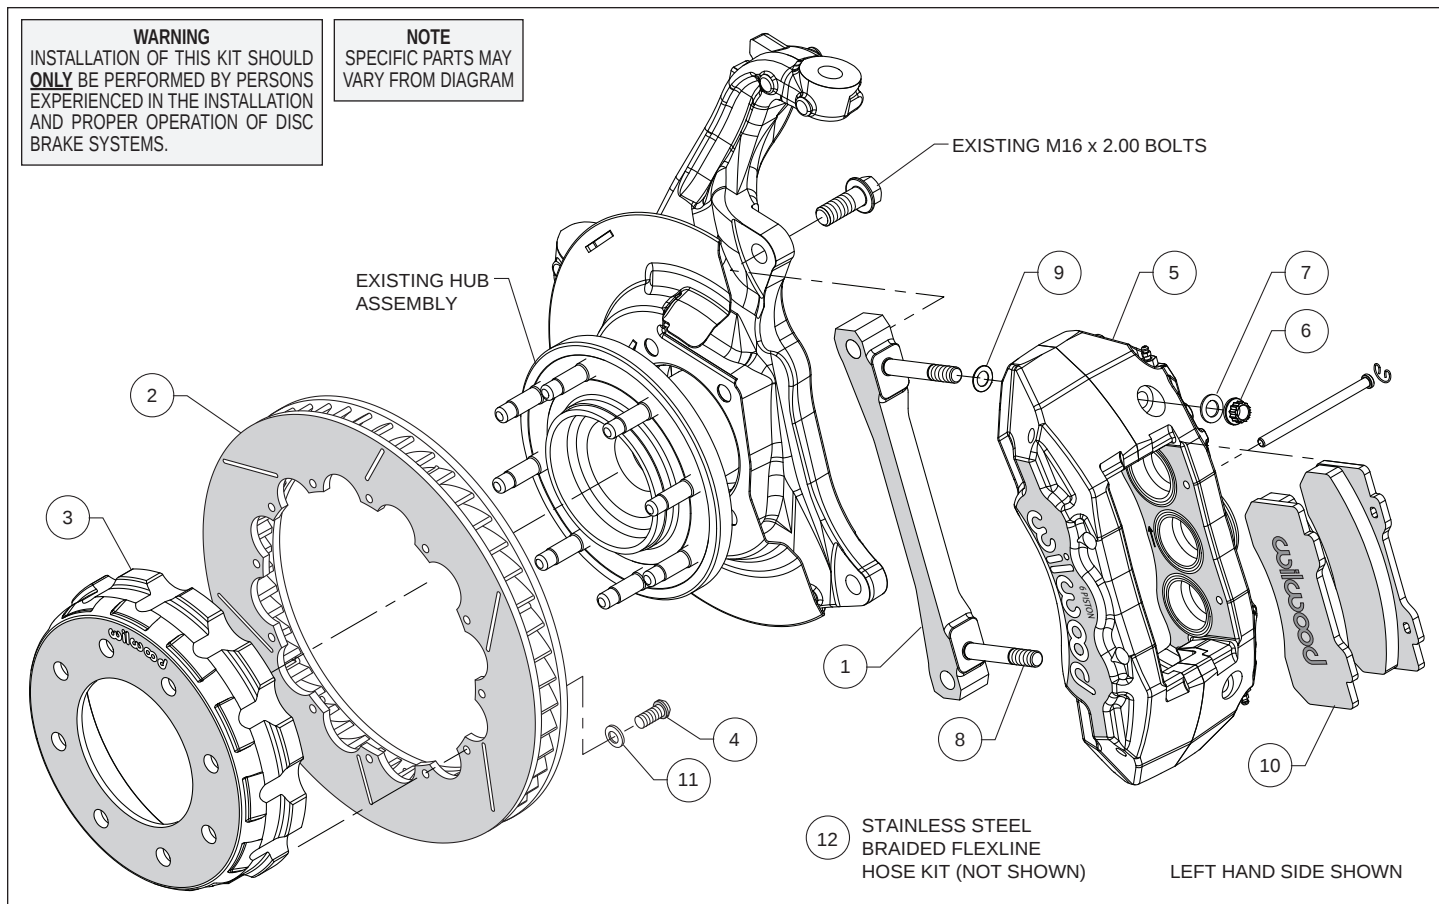

Figure 1. Typical Installation Configuration
Assembly Instructions (numbers in parenthesis refer to the parts list and Figure 1 on the preceding pages):
- The caliper mount bracket (1) should initially be installed with clean, dry threads on the mounting bolts. Orient the bracket as shown in Figure 1 and Photo 1, and install using saved OE bolts. Temporarily tighten the mounting bolts. **NOTE:** *The bracket must fit squarely against the mount bosses on the upright.* Inspect for interference from casting irregularities, machining ridges, burrs, etc. Remove the mounting bolts one at a time and apply red *Loctite*® 271 to the threads and torque to manufacturer's specifications.
- Orient the rotor (2) and the hat (3) as shown in Figure 1 and Photo 2. Attach rotor to hat using bolts (4) and washers (11). Using an alternating sequence, torque to 25 ft-lbs.
- NOTE:** *This kit contains distinct right and left hand calipers that must be mounted in a specific direction, as described below.* Lubricate the caliper mounting studs (8) with lightweight oil. Initially place one .032" thick shim (9) on each stud as shown in Figure 1 and Photo 3. Mount the caliper (5) onto the bracket (1) using lock nuts (6) and washers (7), Figure 1. Ensure that the caliper is mounted so that the largest pistons are at the rotor exit end of the caliper, in relation to the direction of rotor rotation. Temporarily tighten the lock nuts.
- Remove the two pad retaining pins from the caliper by carefully popping out the pin retaining clips and sliding out the pins. Insert the brake pads (10) into the caliper, with the friction material facing the rotor, as shown in Photo 4 and secure the brake pads in place with the pad retaining pins and clips, Photo 5. Check that the top of the brake pad is flush with the outside diameter of the rotor, Photo 6. If not, adjust by adding or subtracting shims (9) between the caliper and the bracket. After the caliper pad height is set, torque the caliper lock nuts (6) to 65 ft-lb.